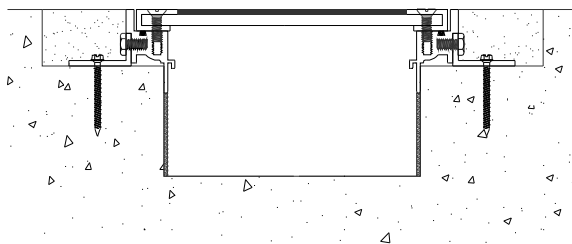

Figure 8
STEP 12. Place the cover plate back into its installed position in the frame. Attach the cover plate to the frame using the cover plate bolts, see Figure 8.